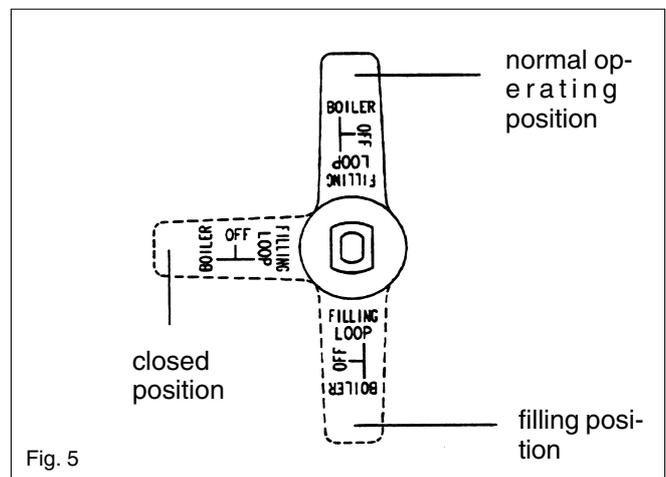

Fig. 5
**Info 3** CH temperature set (fig. 5)